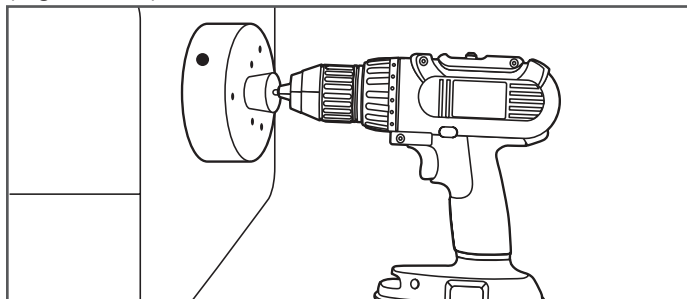

Figure 23-3
1. Drill through sump wall using a 6" hole saw (Figure 23-3).